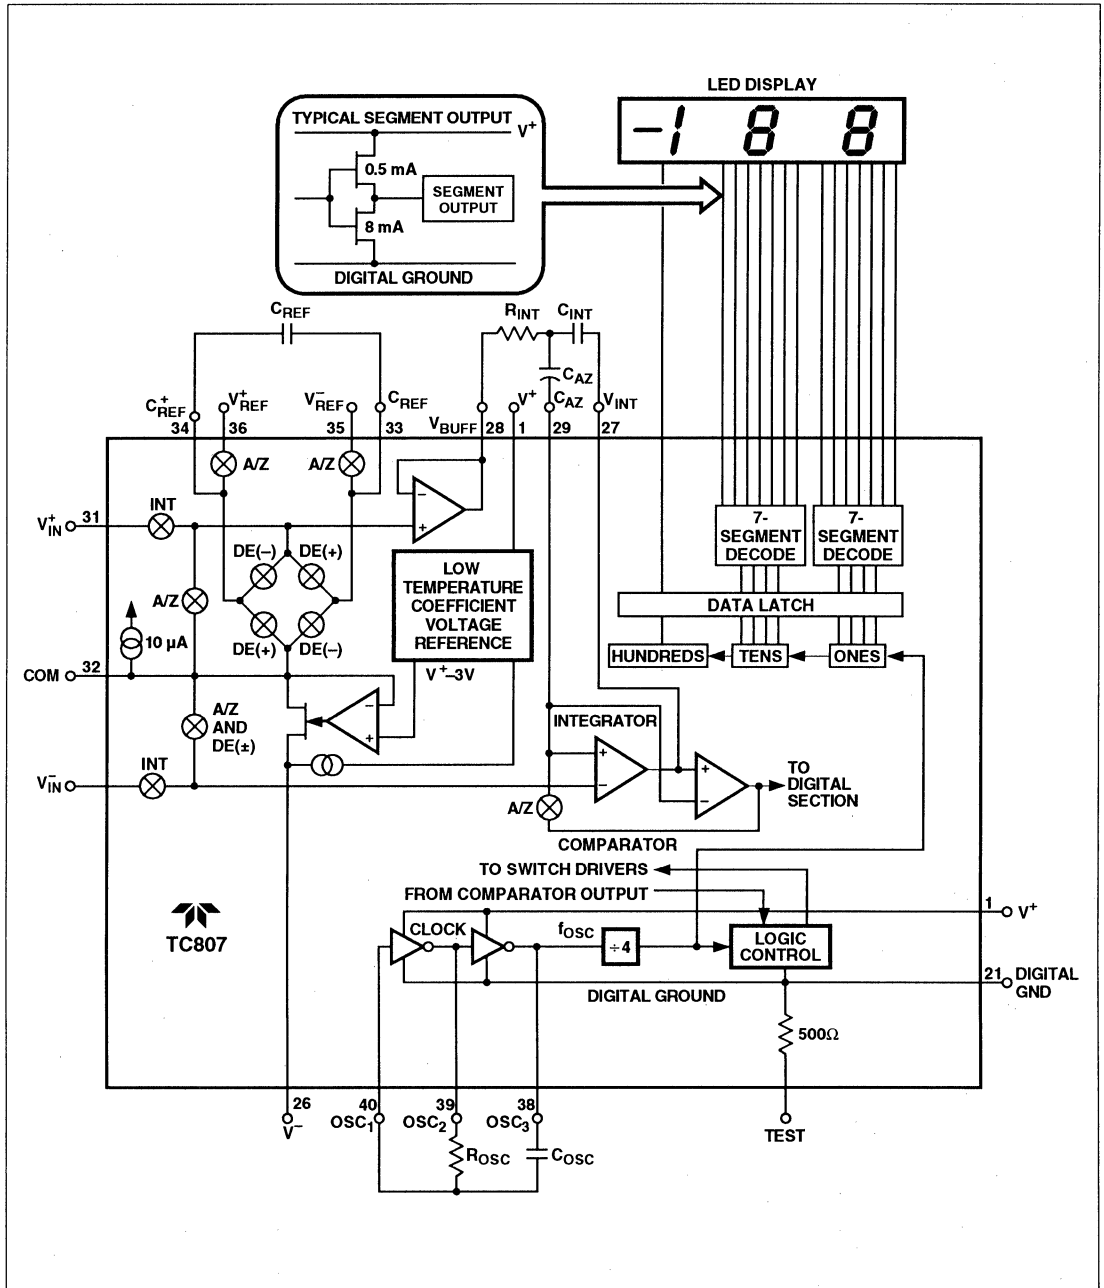

Figure 2. Block Diagram
Figure 2 is a block diagram of the TC807. Each measurement cycle is divided into three phases: (1) auto-zero (A-Z), (2) signal integration (SI), and (3) reference integration (RI). The conversion rate is set by the clock oscillator frequency and is independent of the analog input amplitude.
The TC807 contains all the segment drivers necessary to directly drive a 2-1/2 digit LED display. The segment is typically 8 mA. The 100's output (pin 19) sinks current from two LED segments, and has a 16-mA drive capability. The TC807 is designed to drive common anode LED displays. (See Figure 2.)